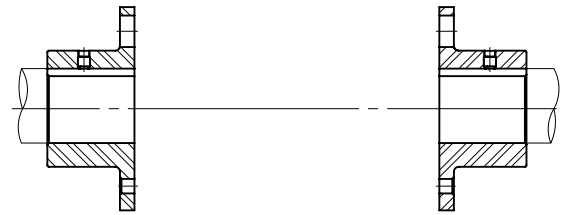

Figure 4
- 3.2.2. Slide the other hub on the shaft and insert the set screws. Do not tighten the set screws since the hub needs to be re-positioned and aligned. Refer figure 4.